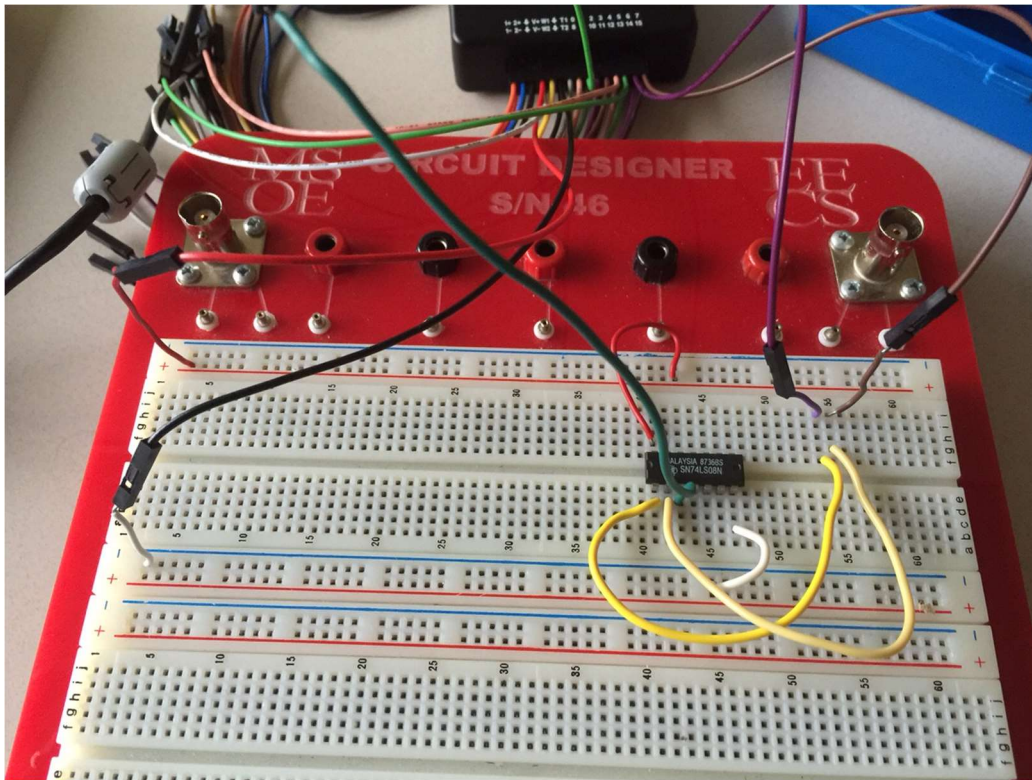
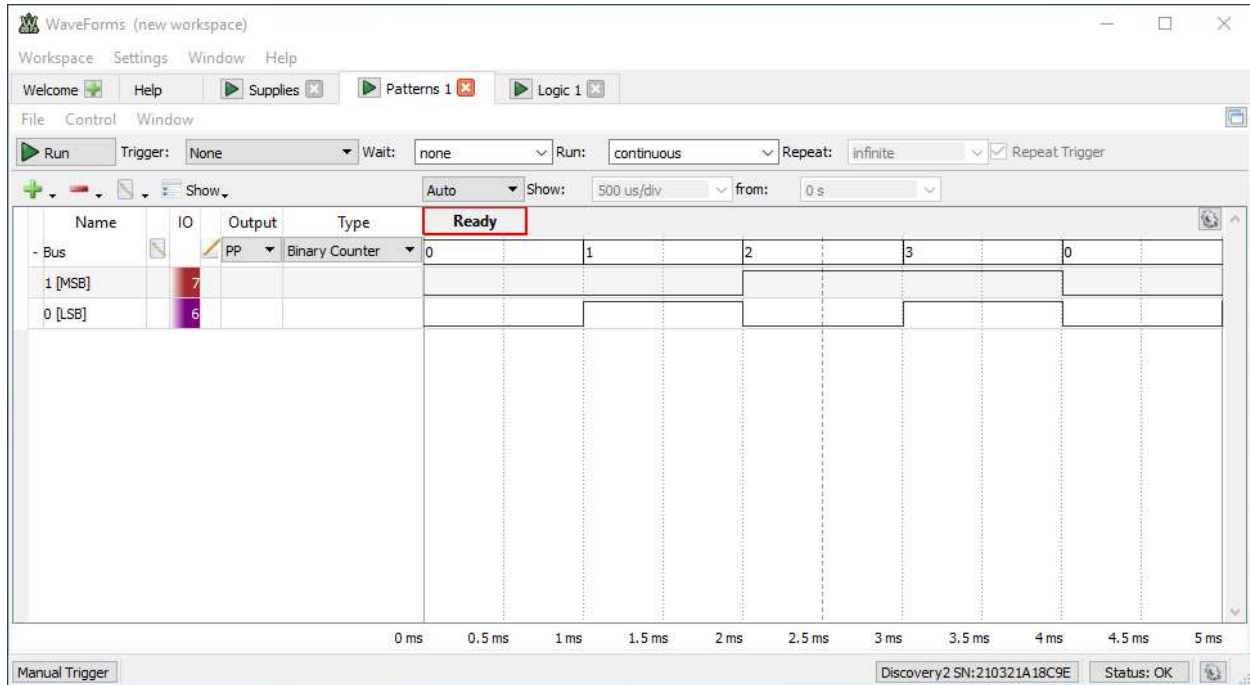

Figure 6: A 7408 AND IC Ready for Testing
Figure 7: The Patterns instrument configured to generate a binary count sequence on the circuit input signals.
6. **Build** the circuit shown in Figure 6. (**Remember: just scan the reading during the pre-lab. You will follow these steps and build the circuit during lab.**)
- e. **Note** that a 2-bit number line appears on signals DIO7 and DIO6. Remember that these signals are wired to AND gate input A and to AND gate input B. **Refer** to Figure 6 and Figure 7.